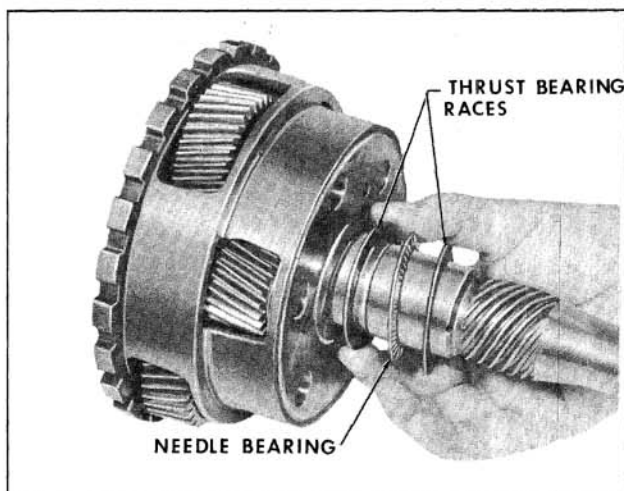

Fig. 6-496 Installing Thrust Bearing
1. Install thrust bearing race with a lip, needle bearing and a second plain thrust bearing race to the rear face of the planetary gear set. Retain with grease. (Fig. 6-496)